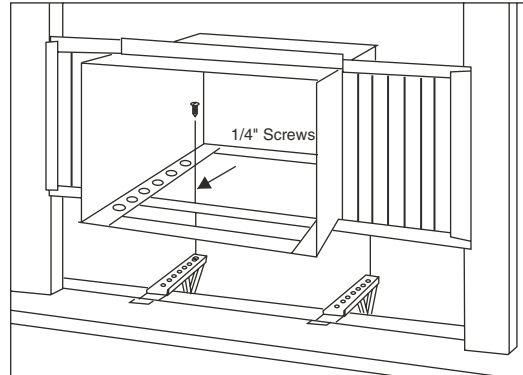

Fig. 15 – Secure the Cabinet
- A. Align one hole in the bottom of the cabinet with one hole in the bracket assembly. Secure the cabinet to the bracket using (3) 1/4" screws provided. Repeat the same procedure on the opposite side of the cabinet. See (Fig. 15).